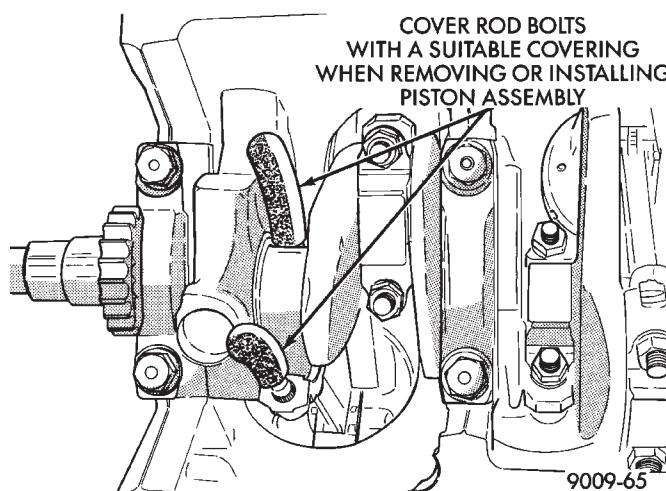

Fig. 61 Connecting Rod Protectors
(3) Remove connecting rod cap. Install connecting rod bolt protectors on connecting rod bolts (Fig. 61). Push each piston and rod assembly out of cylinder bore.
(4) Install connecting rod bolt protectors on rod bolts. (Fig. 61)
(5) Rotate crankshaft so that the connecting rod journal is on the center of the cylinder bore. Insert rod and piston into cylinder bore and guide rod over the crankshaft journal.